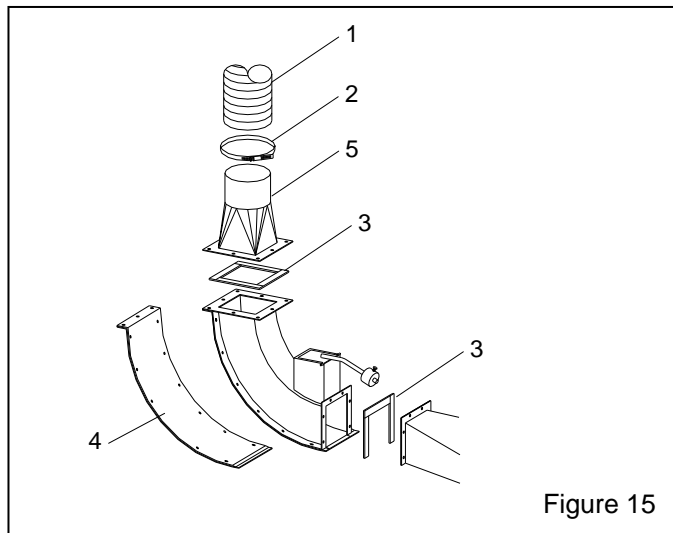

Figure 15
14.3 Transition Elbow Assembly, Figure 15